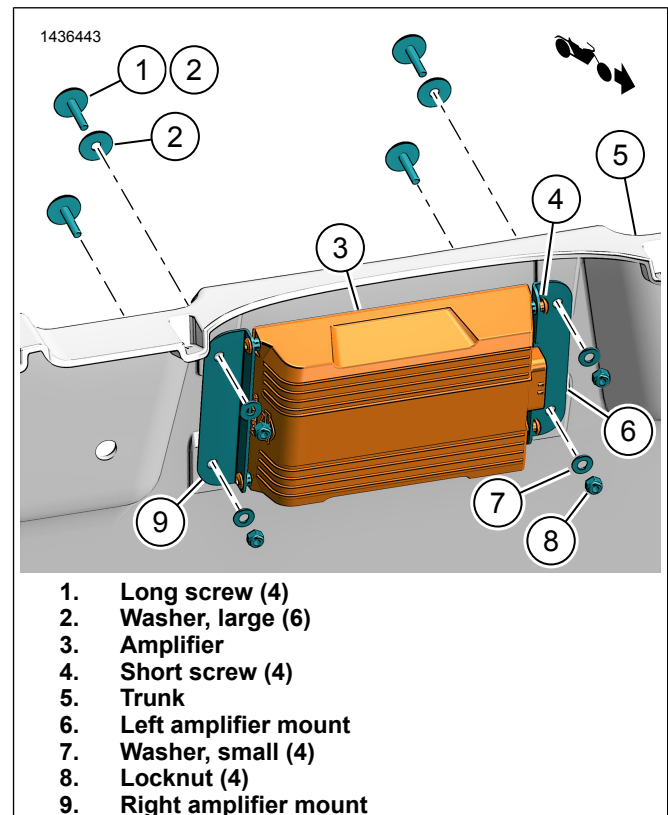

Figure 2. Amplifier Mount Brackets
1. See Figure 2. Install amplifier mount brackets.
- a. Install brackets (6, 9) to amplifier (3).
- b. Install screws (4). Tighten.
See Figure 2. Install amplifier with brackets.